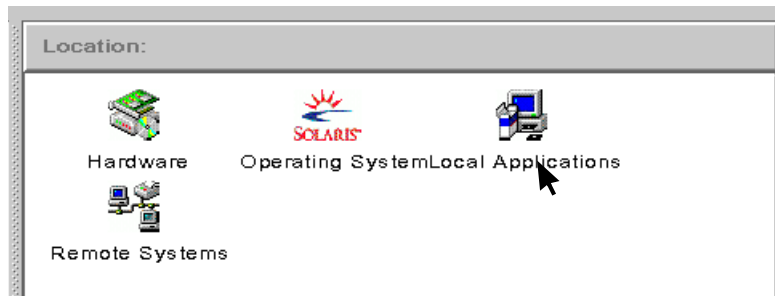

FIGURE 4-2 Details Window (Browser View), Selecting Local Applications
3. Double-click on Local Applications in the topology view (FIGURE 4-2).